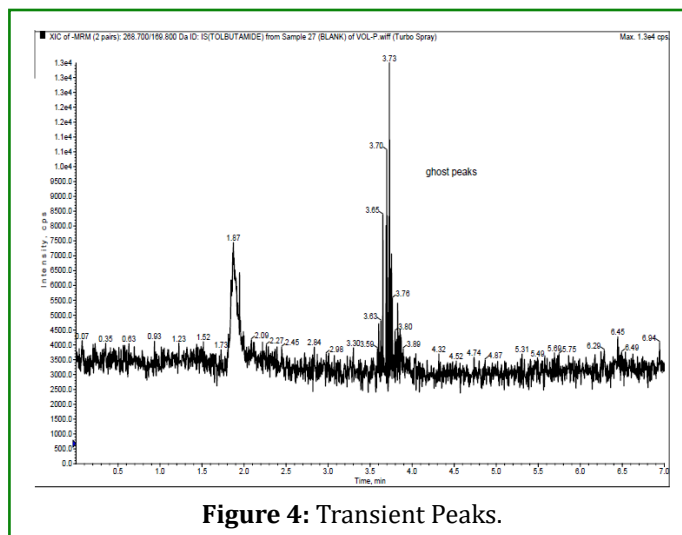

Figure 4: Transient Peaks.
- **Examples:** Peaks caused by air bubbles in the pump or temporary blockages in the column (Figure 4).